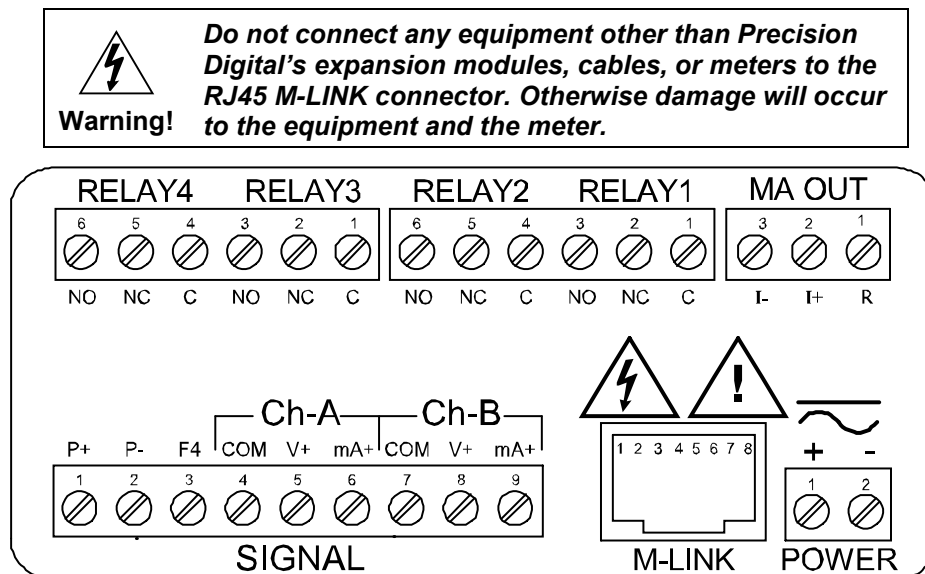

Figure 3. Connector Labeling for Fully Loaded PD6262
Power connections are made to a two-terminal connector labeled POWER on Figure 3. The meter will operate regardless of DC polarity connection. The + and - symbols are only a suggested wiring convention.
Signal connections are made to a nine-terminal connector labeled SIGNAL on Figure 3. The COM (common) terminals are the return for the 4-20 mA and the ± 10 V input signals. The two COM terminals connect to the same common return, and are not isolated.
Relay connections are made to two six-terminal connectors labeled RELAY1 – RELAY4 on Figure 3. Each relay's C terminal is common only to the normally open (NO) and normally closed (NC) contacts of the corresponding relay. The relays' C terminals should not be confused with the COM (common) terminal of the INPUT SIGNAL connector.